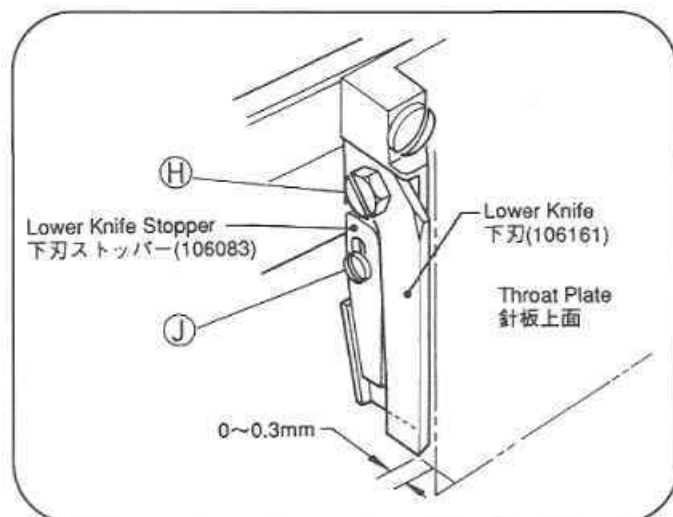

Fig.16
The lower blade edge must be parallel with the throat plate and below it by 0 to 0.3mm, as shown in Fig.16. Secure the lower blade in position by means of screw ⑩. Also secure the lower blade stopper, by means of screw ⑪, without leaving a gap between the lower blade and the stopper. Both upper and lower blades have dimensional errors with respect to thickness. Carry out the adjustment described in 4-7 Crepe Tape Cutter, when you have replaced the upper and/or lower blade.
下刃の刃部は<Fig.16>のように針板上面より0~0.3mm下げて針板上面と平行にして⑩を締め付けてください。そして下刃ストッパーを下刃と隙間が生じないように注意してネジ⑪を締め付けてください。下刃、上刃とも刃厚の誤差がありますので新品と取りかえたときは12 ページ 5-7 カッターの調整の項を参照の上、調整してください。